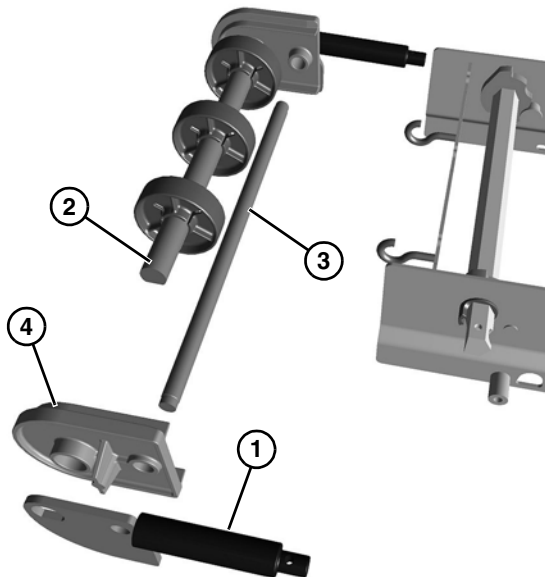

Figure 58
3. Remove the shaft assembly (Figure 58, item 1) from idler shaft (Figure 58, item 2) and pinch guard shaft (Figure 58, item 3).
4. Remove tracking plate (Figure 58, item 4) from idler shaft and pinch guard shaft.
5. Remove pinch guard shaft (Figure 58, item 3).